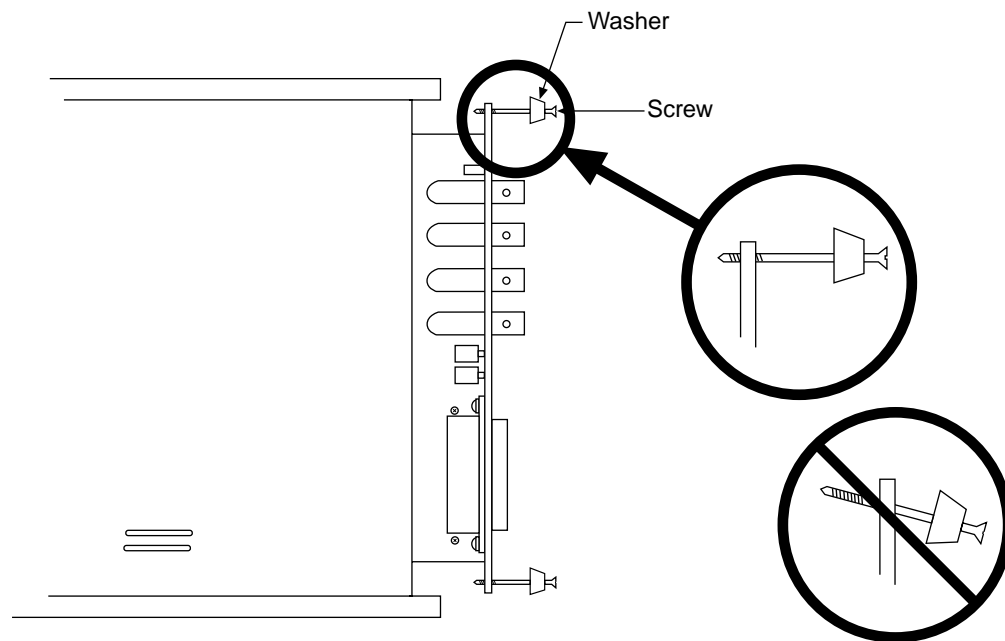

Figure 40. Module Installation
1. Rotate the two locking screws counterclockwise until the threads on the screws engage those of the module panel. *See Figure 40.* By doing this, the screws will be perfectly perpendicular to the module panel and will align perfectly when the module is inserted.